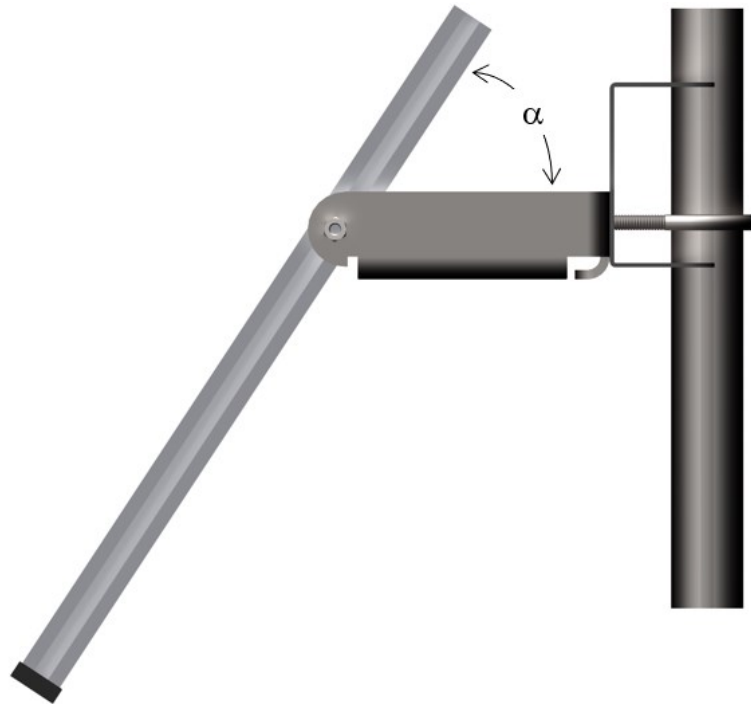

FIGURE 6-43. Side view of solar panel shows tilt angle
2. Mount the solar panel to the pole so it faces south (northern hemisphere). Position it as high off the ground as practical, ensuring it cannot interfere with air flow or sunlight around the sensors. The solar panel should be oriented to receive maximum insolation over the course of the year. Suggested tilt angles referenced to the horizontal plane (FIGURE 6-43 (p. 60)) are listed in Table 6-1 (p. 59).
5. Secure the wire to the mast using wire ties (FIGURE 6-43 (p. 60)).